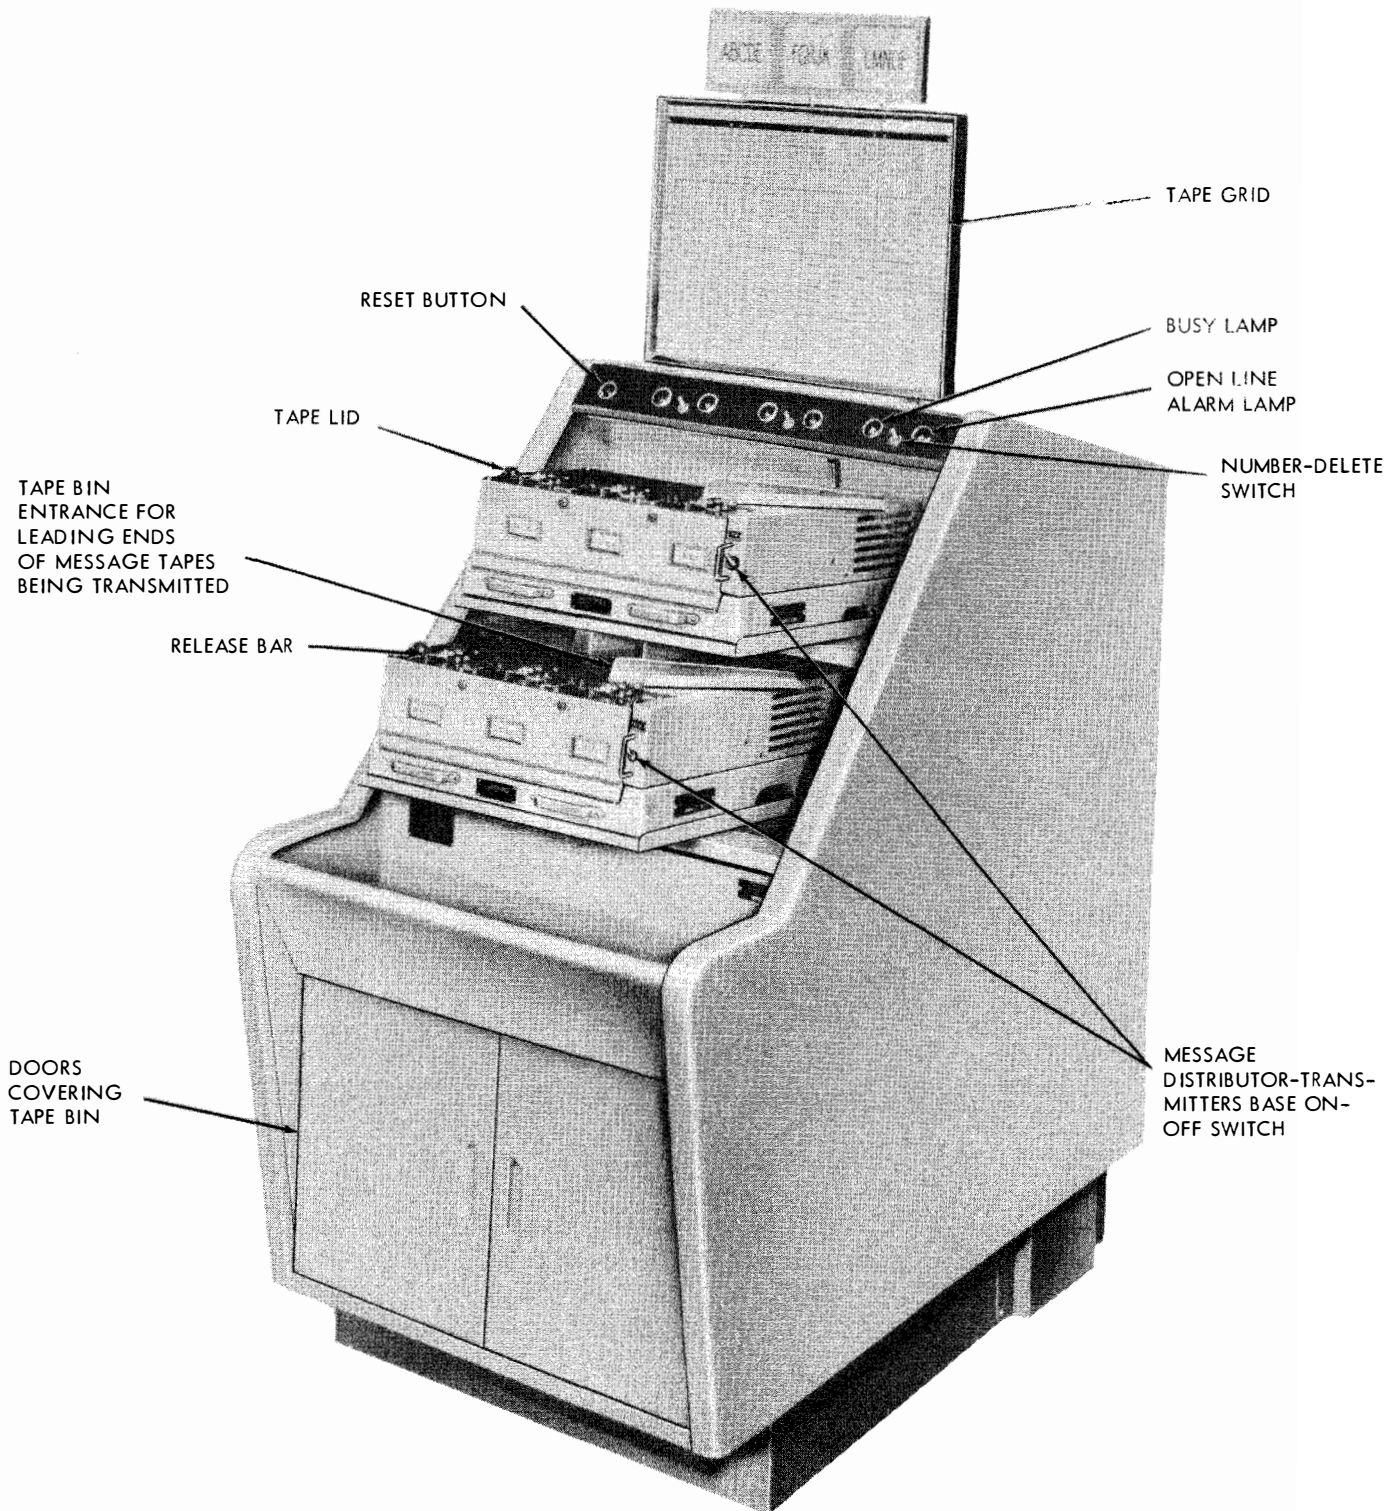

Figure 4-2. Transmitter Group OA-615/FGC-38, OA-618/FGC-38X, or OA-621/FGC-39, Front View
c. TRANSMITTER GROUP OA-615/FGC-38, OA-618/FGC-38X, OR OA-621/FGC-39.—The transmitter group is composed basically of six message distributor-transmitters and two bases, and three numbering distributor-transmitters and a base. (See figure 4-2.)